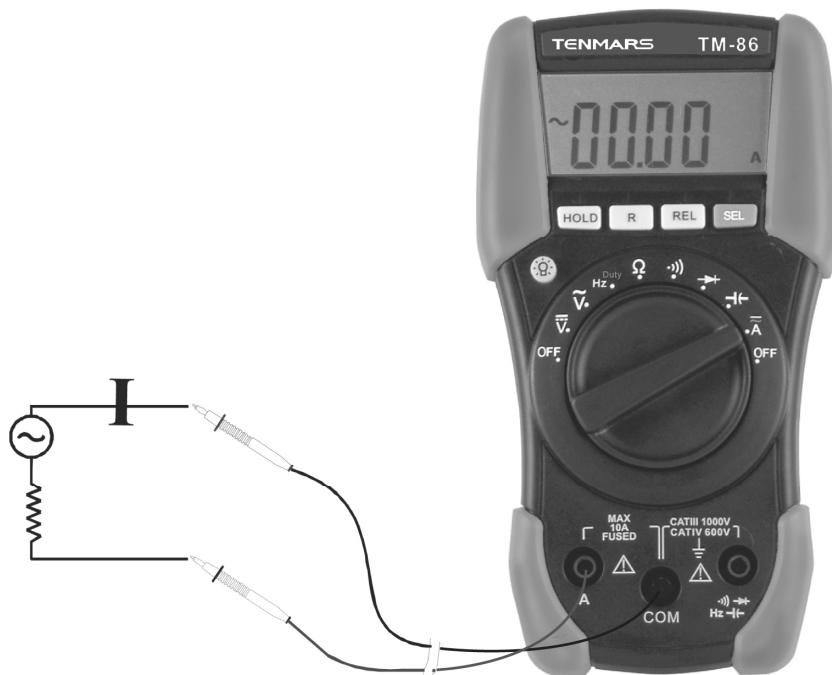

Fig. 5: Using the instrument for AC Current measurement
4. Insert the test leads into the jacks, the red plug into **A** jack and black plug into **COM** jack (see Fig. 5).